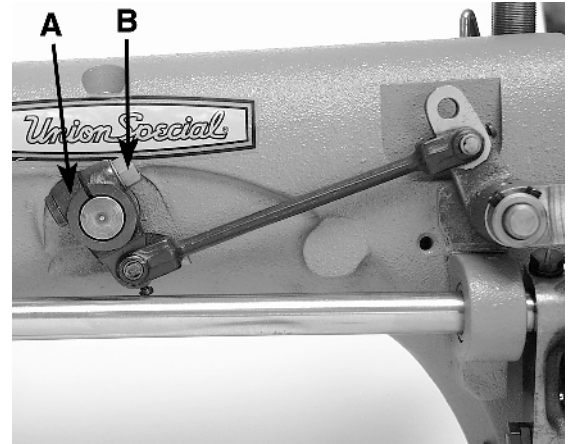

Fig. 6
Turn handwheel in the operating direction until the needle bar is at the bottom of its stroke. Loosen nut (B, Fig.6), and move upper feed lift driving lever (A) so that the teeth of the upper feed dog is 5/32" (7.9mm) for style 53700B and 3/16" to 13/64" (4.8 to 5.2mm) for style 53800B, above the top of